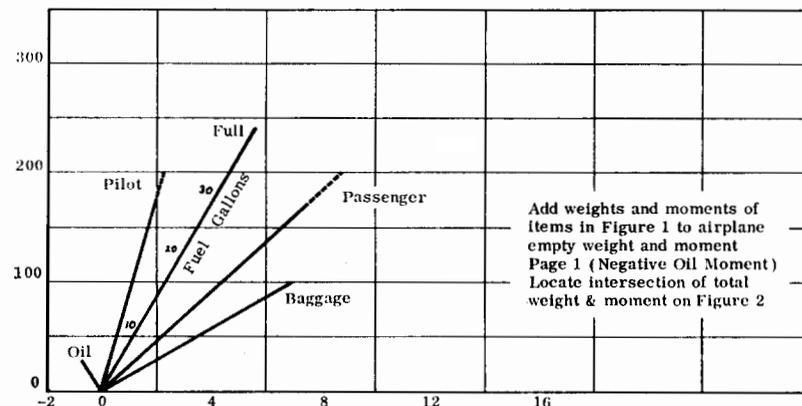

Figure 1.
**C-7. WEIGHT AND BALANCE.** Your Citabria is designed to be flown within certain limits of weight and center-of-gravity (c. g.) location. Gross weight of all models is 1650 pounds. Forward and aft c. g. limits are given on the operations limitations card furnished with your airplane. Until you become familiar with permissible loading in your airplane, and in any marginal case, you must calculate the weight and c. g. location and determine whether or not they are within the specified limits. To perform these calculations, you will need the Equipment List and Loading Schedule furnished with your airplane. This document shows 1. the aircraft empty weight and c. g. location (or moment, which equals the c. g. location times the weight), 2. moments based on the weight of passenger, pilot, etc., and 3. the center-of-gravity envelope. An Equipment List and Loading Schedule for a typical airplane are given in Figures 1, 2 and 3, pages 19 and 20. The following example of a weight-and-balance calculation is based on these figures. (When calculating the weight and balance for your airplane, use the sheets supplied with the airplane).
3. Calculate and enter the pilot's moment, using the loading graph of Figure 1. Draw a horizontal line from the pilot's weight on the vertical scale to the inclined pilot's moment line. From the intersection of these two lines, draw a vertical line intersecting the horizontal scale. At this intersection with the horizontal scale, read the pilot's moment.